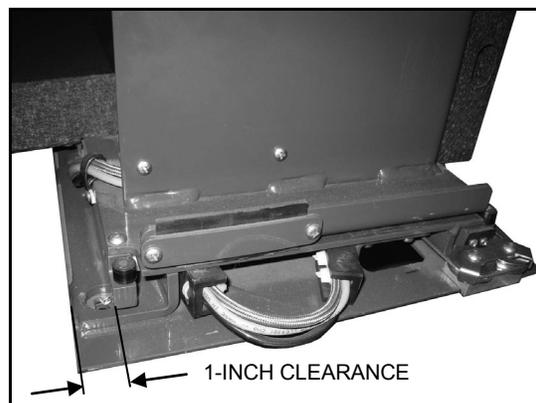

FIGURE 3-14
11. Refer to **Figure 3-14**. Push base of sliding tower rearward (about 1”) to disengage it from the baseplate. Be prepared to handle its weight.